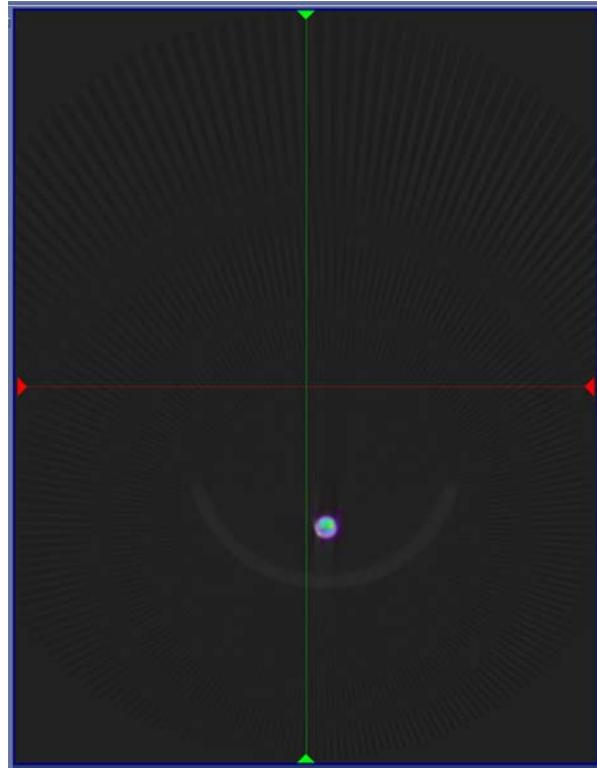

Figure 7-127
14. See Figure 7-127 (line source on cradle). In a properly calibrated system, the two images would automatically overlap each other perfectly (as in this example). Use the Register tool to determine the x offset for the two images (mm). That is, determine how much the SPECT image has to move in order to overlap the CT image. This is done by: